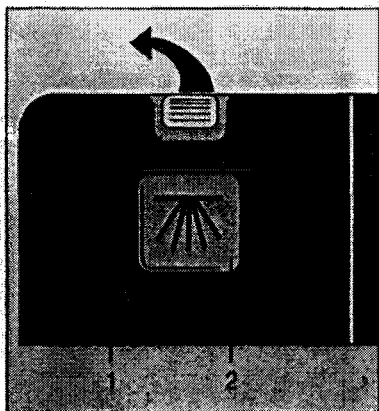

Fig. 10
- Press the lever forward (Fig. 10/1). The lid springs open.
In case of heavily soiled dishes, it is possible to add extra detergent to the tray on top of the dispenser lid (Fig. 10/2). Fill until level. The extra detergent will be added during the prewash.